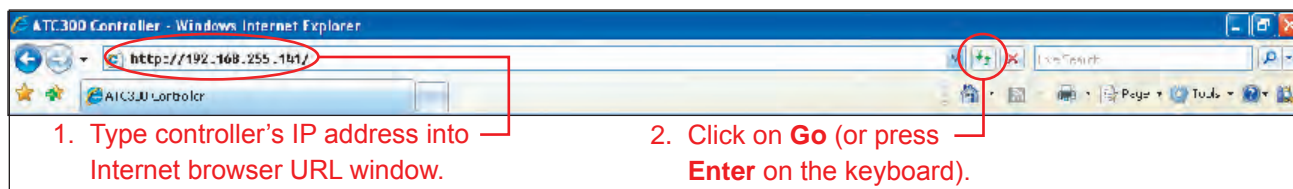

Figure 7-1. Entering Controller's IP Address Into Internet Browser.
4. Open an Internet browser (Netscape and Mozilla browsers are not supported). Type the controller's Ethernet IP address into the URL address window, and click on **Go** (Figure 7-1).